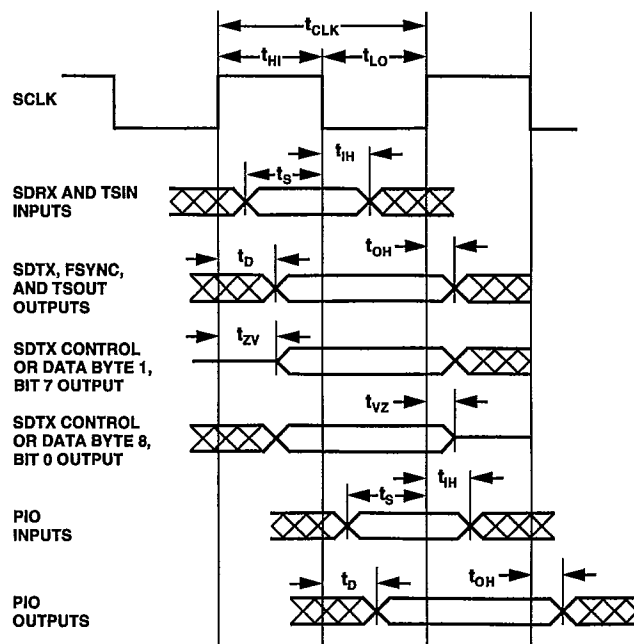

Figure 7. AD1849 Timing Parameters
The PIO pins are read on the rising edge of SCLK five (5) SCLK periods before the first PIO bit is transmitted out over the serial interface. In Data Mode, the PIO pins are sampled as Bit 20 starts to be driven out. In Control Mode, the PIO pins are sampled as Bit 36 starts being driven out. Timing parameters are as shown in Figure 7; PIO pin input data is relative to the rising edge of SCLK. (Note that *only* the PIO pins are read on SCLK rising edges.)